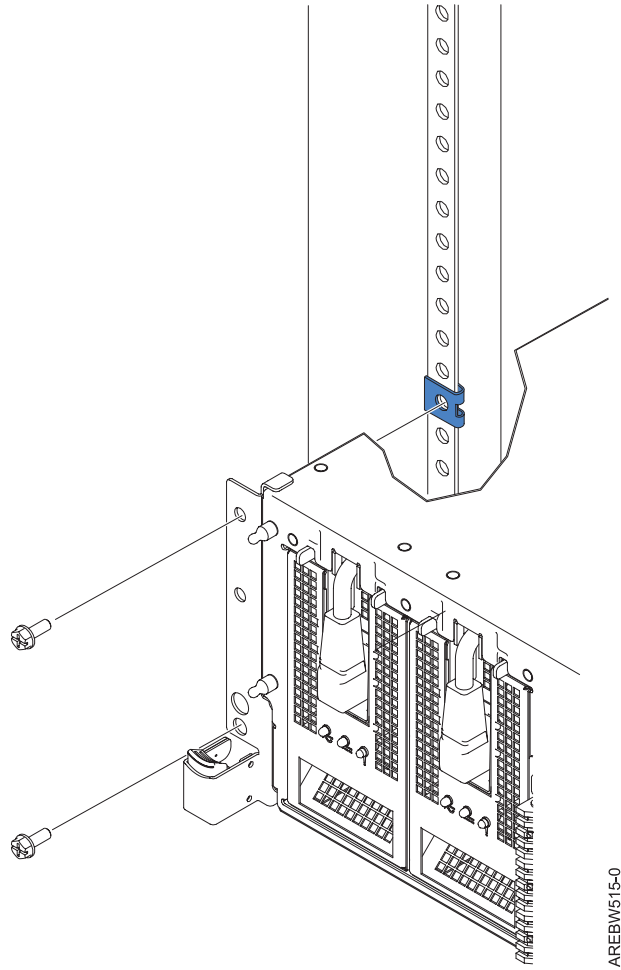

Figure 30. Secure system to rack through rack latches
12. Install and position the nut clips (shown in blue) before inserting the screws. Use the retaining screws to attach the system to the rack as shown in Figure 30 on page 36.